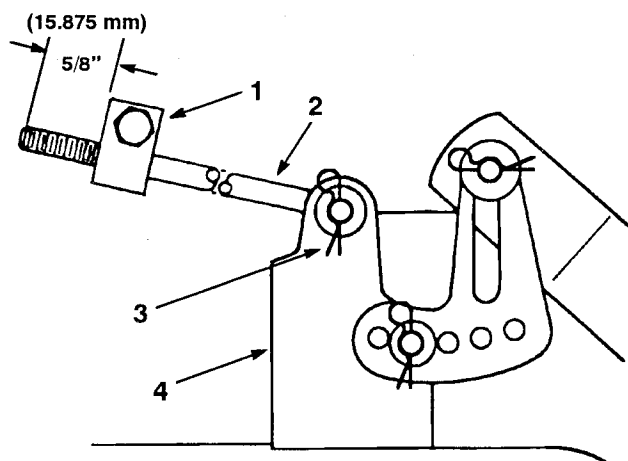

Figure 52
6. Measure the length of the rod extending out the front of the adjusting block on the sides of the chassis (Fig. 52). If the rod length is not 5/8" (15.875 mm), remove the hair pin cotter and washer from the end of the rod (Fig. 52), and turn the rod until the 5/8" (15.875 mm) dimension is obtained. Then install the end of the rod into the hole in the mower mount and secure in place with washer and hair pin cotter. Repeat this procedure on the opposite side of the mower.
8. Raise or lower the front of the mower by adjusting the length of the long rod and reinstalling it in the mower mount with the washer and hair pin cotter (Fig. 52). Adjust one side, then the other. After adjusting both rods, check the front-to-rear slope again. Continue to adjust the rods one turn at a time until the front of the mower is  $1/8"$  to  $3/8"$  (3.175 mm to 9.525 mm) lower than the rear of the mower.